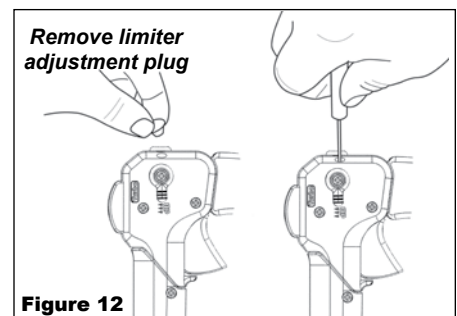

Figure 12
1. Remove the plug located at the top of the throttle assembly. See Figure 12.
2. Move the throttle limiter lever to the "dB" setting. See Figure 12.